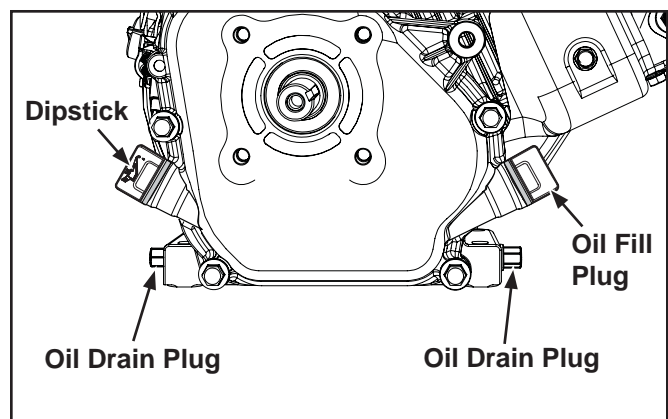

Figure 16. Location of Dipstick and Oil Fill Plug.
2. Clean the area around and beneath the dipstick or the oil fill plug before removing it. This will help keep dirt, debris, and other foreign matter out of the engine. See Figure 16.
NOTE: The engine may be equipped with two dipsticks or an oil fill plug and a dipstick. These can be placed in either hole. See Figure 16.